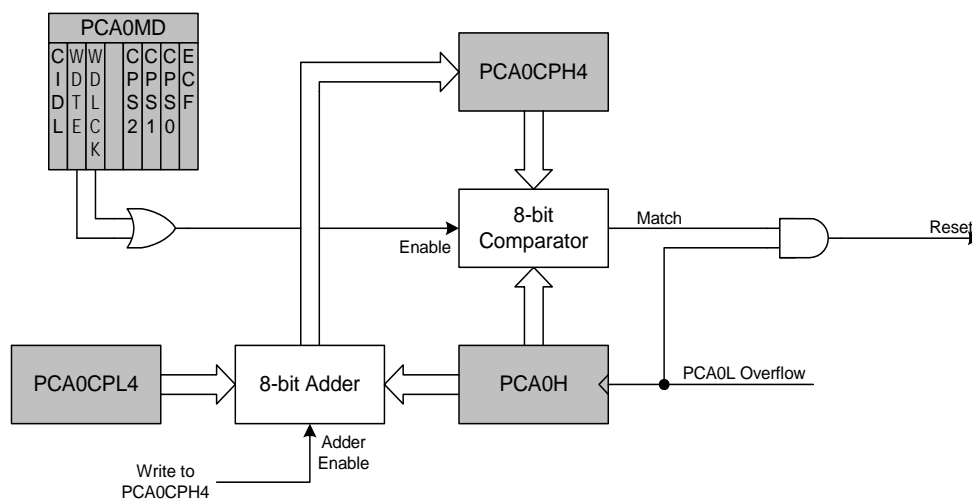

Figure 22.10. PCA Module 4 with Watchdog Timer Enabled
While the WDT is enabled, writes to the CR bit will not change the PCA counter state; the counter will run until the WDT is disabled. The PCA counter run control (CR) will read zero if the WDT is enabled but user software has not enabled the PCA counter. If a match occurs between PCA0CPH4 and PCA0H while the WDT is enabled, a reset will be generated. To prevent a WDT reset, the WDT may be updated with a write of any value to PCA0CPH4. Upon a PCA0CPH4 write, PCA0H plus the offset held in PCA0CPL4 is loaded into PCA0CPH4 (See Figure 22.10).